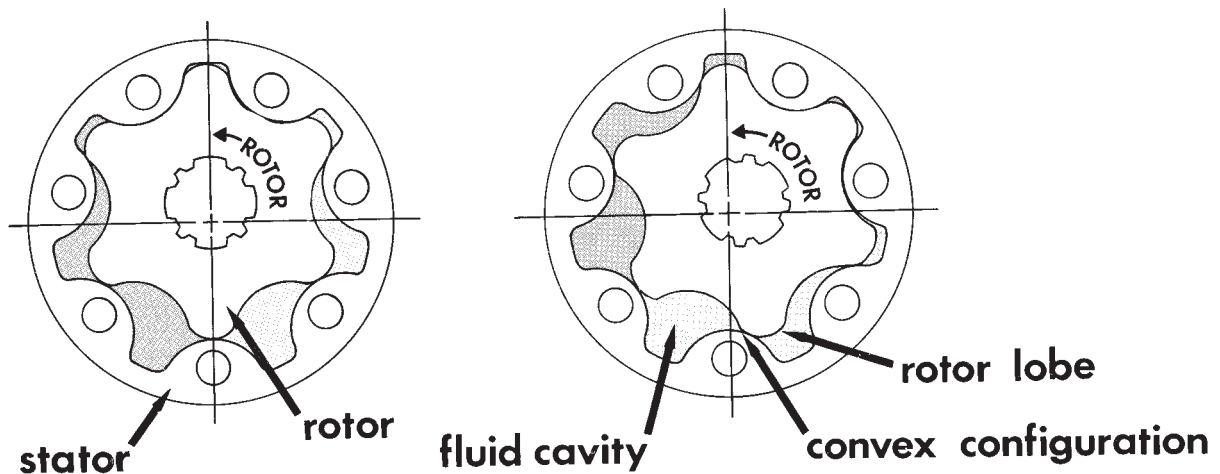

Figure HGA-3
E. ROTOR OPERATION IN THE ROTOR SET (See Fig. HGA-3)